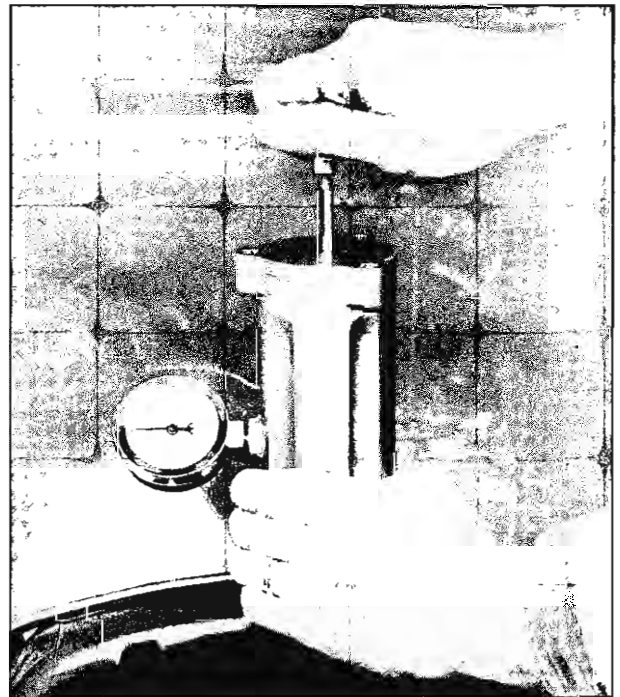

Fig. 44—Cooling System Pressure Test
2. Apply a test pressure 3 pounds higher than the setting of the radiator cap (fig. 44), i.e. 16 pounds for a 13 pound cap.